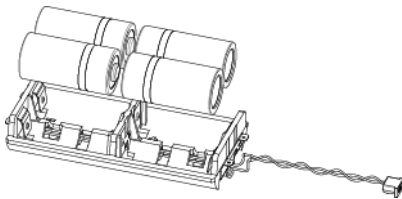

Figure 11
3. Insert the new batteries while observing battery polarity (*see Figure 11*).
2. Open the battery compartment cover and disconnect the battery cable (see Figure 11).